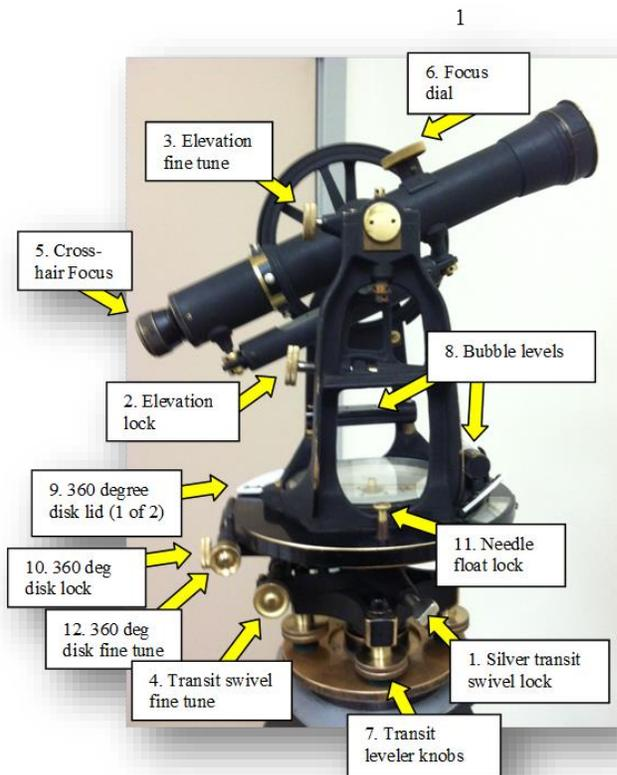

Figure 1. Transit
1. From a distance of (optimally) 75 to 200 feet, either north or south of the tower, position the transit, (Figure 1) and align it with the cross-arm using the optical sight. Loosen the silver transit swivel lock (Item 1.) to allow transit rotation as needed. Loosen the elevation lock knob (Item 2.) to adjust the sight to proper elevation. With cross-arm in focus, gently tighten the elevation lock (Item 2.) knob and use the elevation fine tune knob (Item 3.) for fine adjustments. Tighten the silver lock (Item 1.) and using the transit swivel fine tune (Item 4.) center the eyepiece cross-hair on the center opening of the cross-arm.